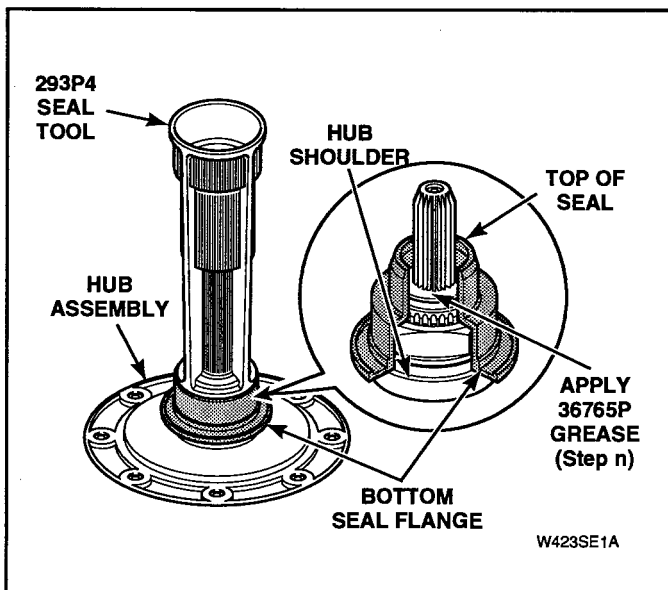

Figure 5-18
- n. Apply remainder of supplied grease, No. 36765P, to exposed surface of washer between transmission output shaft and seal. See Figure 5-18.
- p. Turn the No. 293P4 Seal Tool upside-down and place the small end over transmission output shaft and onto the seal. See Figure 5-18.
- q. Push down on tool with a quick motion until it bottoms out and the top of seal is fully seated. See Figure 5-18.